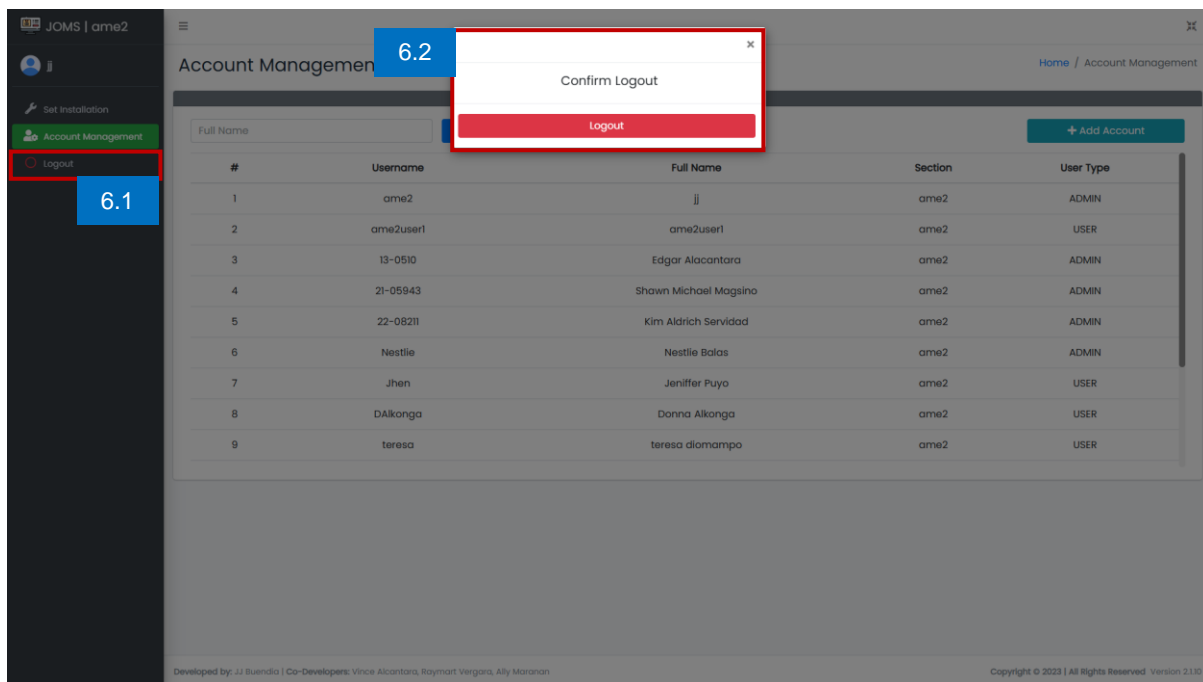

Figure 28. Logout
6.1 Click Logout. (See Figure 28)
6.2 Shows the message box. Click Logout button. Do not forget to logout when not using the system. (See Figure 28)